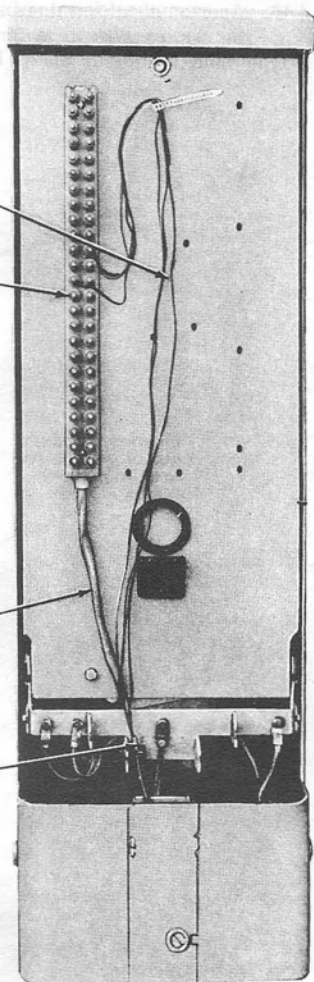

Fig. 9—Service Wire Terminated in PC12/55 Cable Closure
4.08 An example of terminating the conductors of the service wire to a terminal block in a PC12/55 closure is shown in Fig. 9. Terminating the service wire is similar in other PC-type closures.